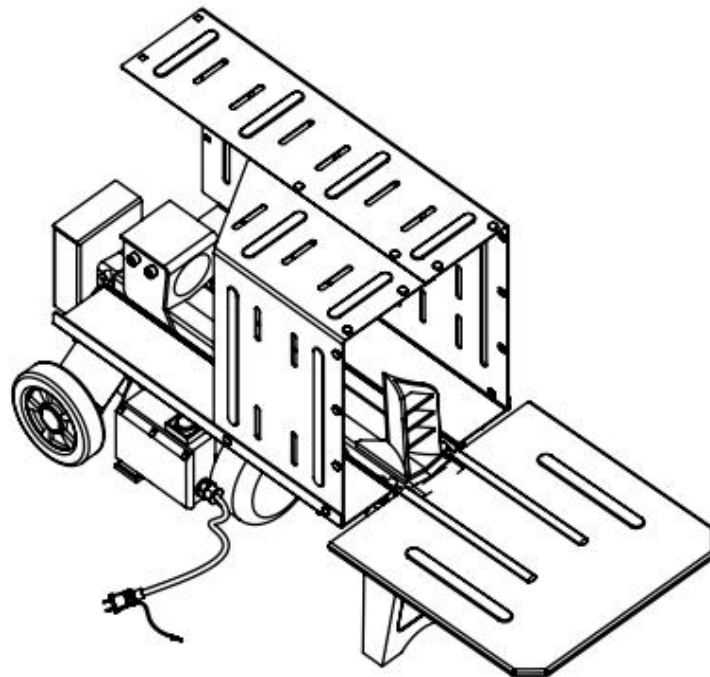

Figure 2
6. Making the hook in the front of the extension table contact with the cylindrical boss of the working table, and put the other side on the head of the cylinder. Screw two M6 knobs into the corresponding holes of left and right support plates (loosen two M6 knobs when dismantling the extension table). See figure 2